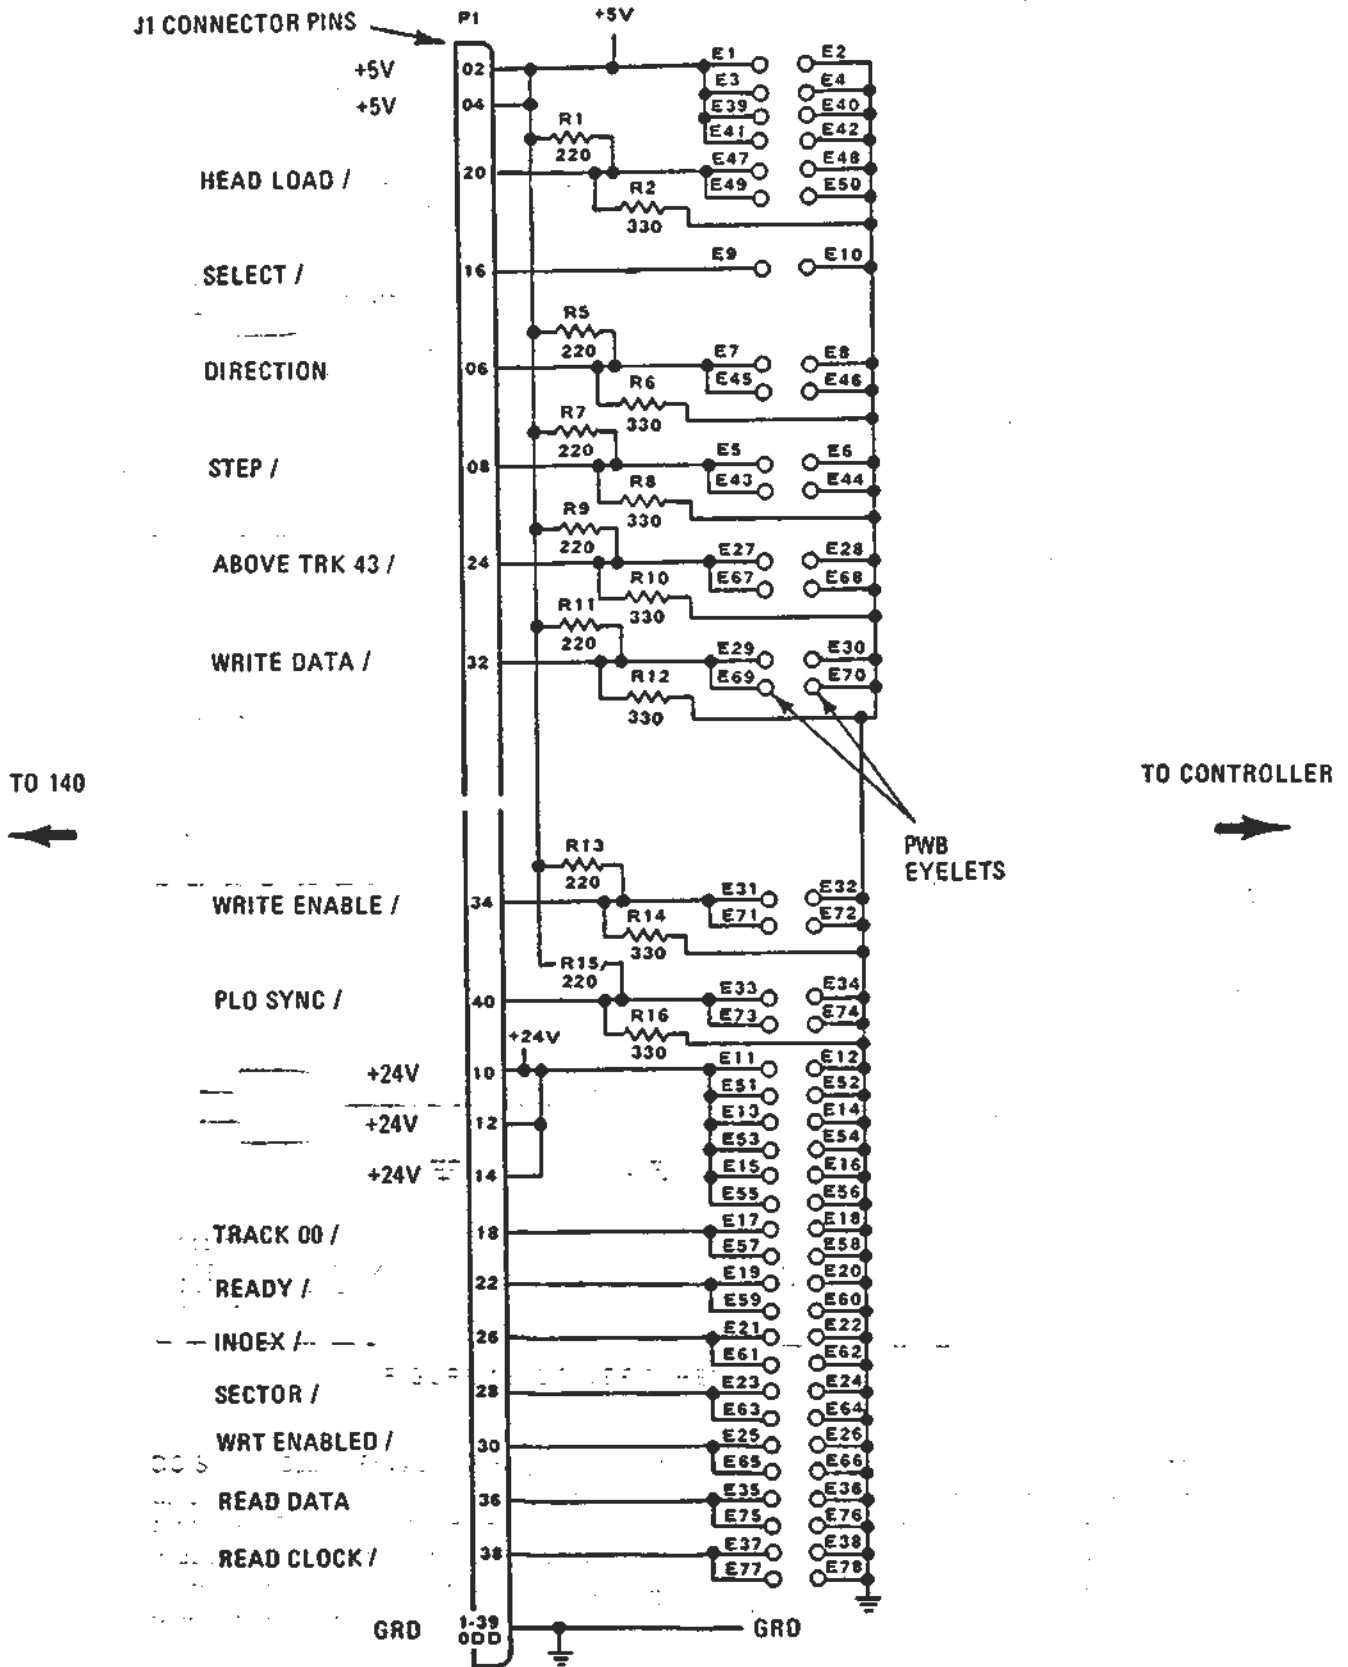

FIGURE 14. TERMINATOR SCHEMATIC
**DC/Signal Cable Physical Wiring-A** connector PWB is available (P/N 12084-XXX) for the CalComp 140 which may be used as part of necessary interface cabling between the drive and its controller. This connector PWB serves as an interconnection connector and also as a terminator in daisy chained configurations. In a daisy chained configuration termination resistors are present on the last drive's connector only. Figure 14 is a schematic representation of the PWB with termination resistors.